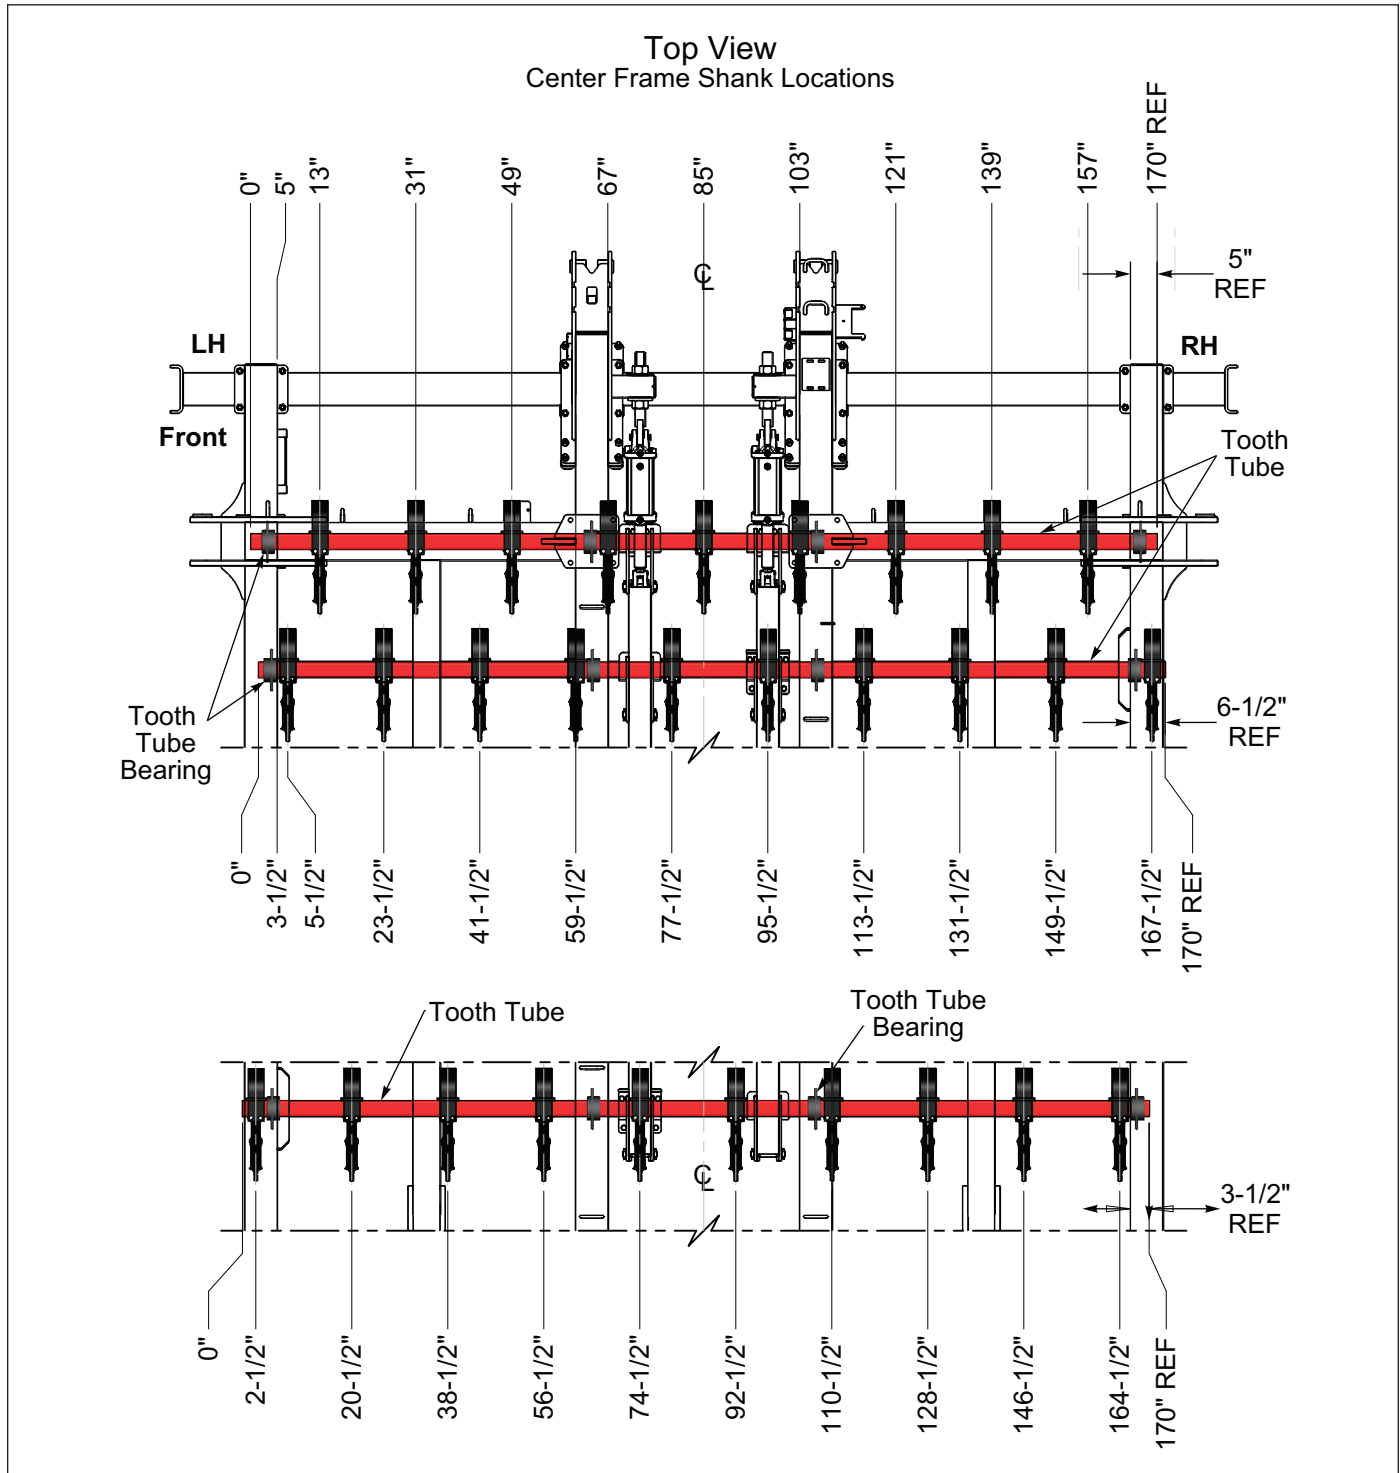

Figure 2-29: Center Frame Shank Mounting Dimensions
1. After marking the tubes for the shank locations, slide the 170" Tooth Tubes into the Tooth Tube Bearings. **See Figure 2-29.**
Mark the tubes for Shank locations prior to installing the tubes. See Figure 2-29.
Mount the Shanks to the Tooth Control Tubes using two 1/2-13 x 5 Bolts and Locknut. **See Figure 2-29** for Center Shank Mounting Dimensions.